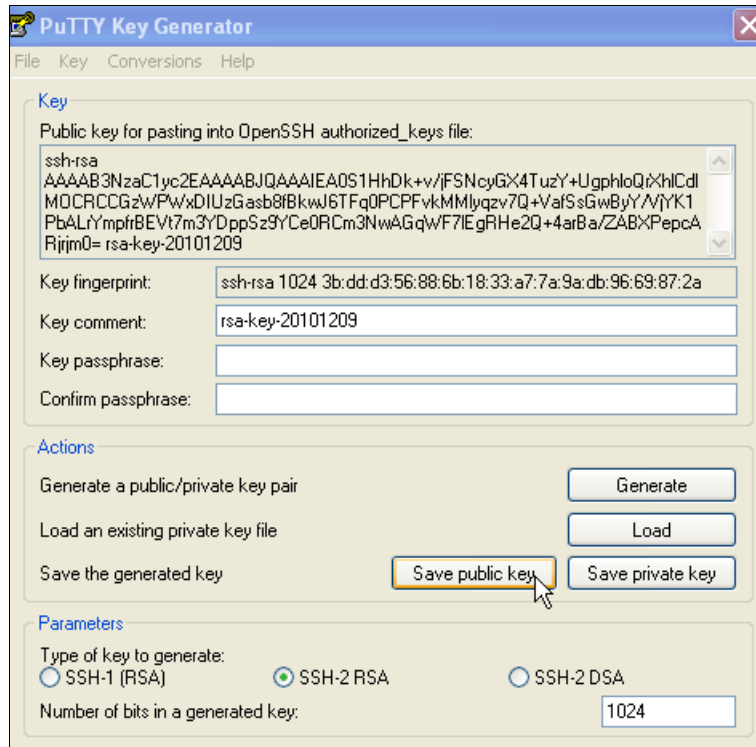

Figure A-3 Save public key
4. After the keys are generated, save them for later use. Click **Save public key**, as shown in Figure A-3.